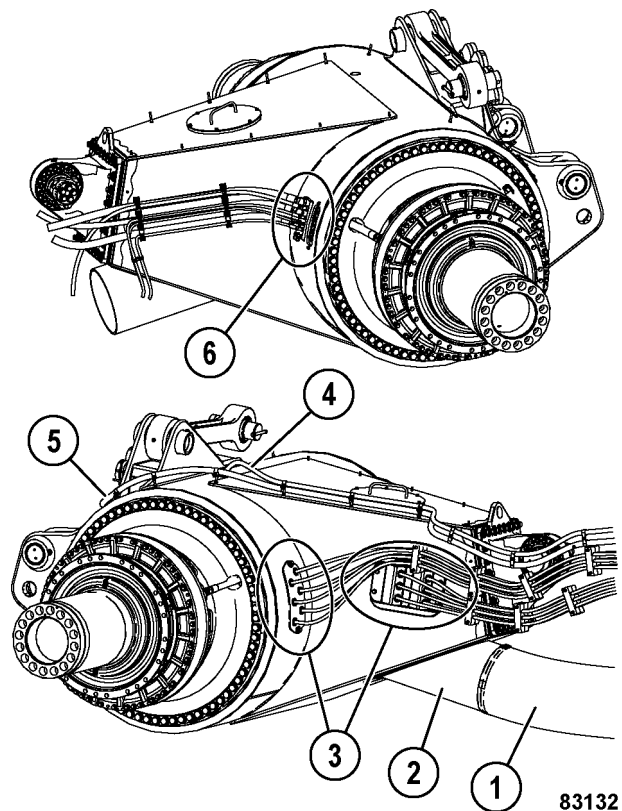

FIGURE 5-2. REAR AXLE HOUSING REMOVAL
1. Loosen the hose clamps and disconnect axle air blower hose (1, Figure 5-2) from wheel motor cooling air duct (2).
4. Disconnect and unclamp the hoses at hydraulic hose manifold (6) on the left side of the rear axle housing. Cap the fittings and plug the hoses to prevent contamination.
5. Remove the cable grips at power cable mounts (3) on the right side of the rear axle housing. Slide the cable grips forward on the cables.
6. Route the power cables into the power cable mounts (3, Figure 5-2) and clamp them in place. Install the cable grips.
7. Install wheel speed harness (4) and rear frame harness (5). Install the clamps.
10. Connect the hoses to manifold (6) on the left side of the axle housing.
11. Install wheel motor cooling air duct (2) between the wheel motors.
12. Install axle air blower hose (1) on wheel motor cooling air duct (2). Install the hose clamps